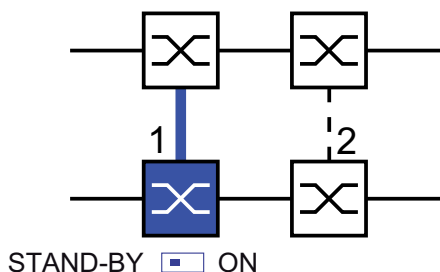

Figure 27: Two-Switch coupling
- Select "Two-Switch coupling" by means of the dialog button with the same graphic as below (see fig. 27).